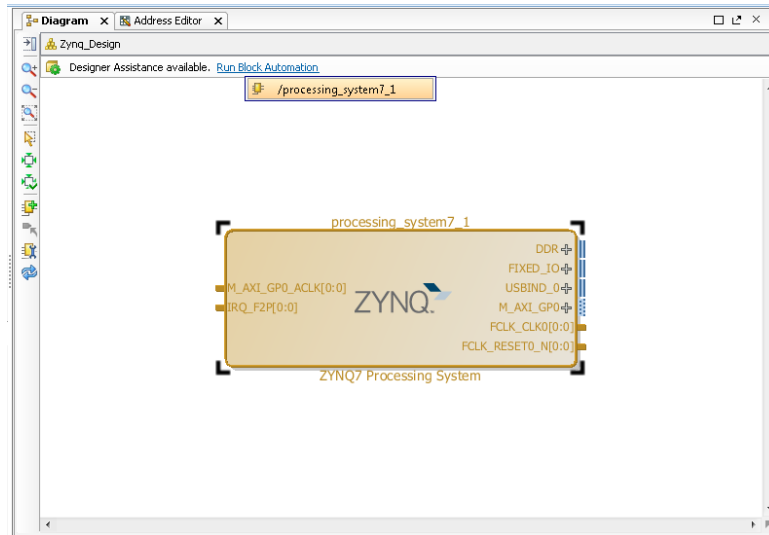

Figure 231: Run Automation
5. Click the **Run Block Automation** link under the title bar (Figure 231).